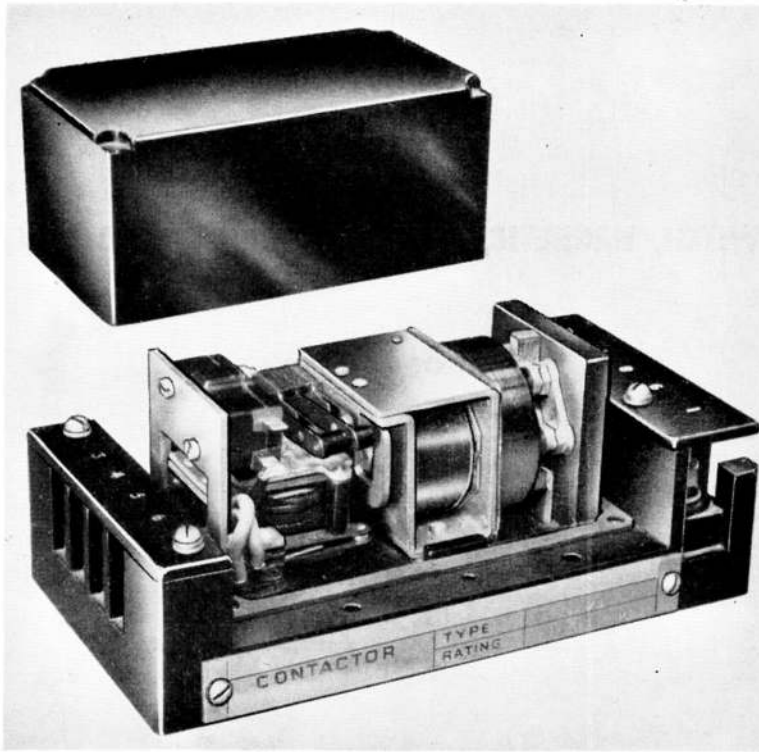

Fig. 1. General view
1. The switch Type 20A (*fig. 1*) is electrically controlled, mechanically latched, single-pole, single-throw, and is designed for the remote control of circuits which carry not more than 50 amp. continuously at 120V, d.c. (nominal).